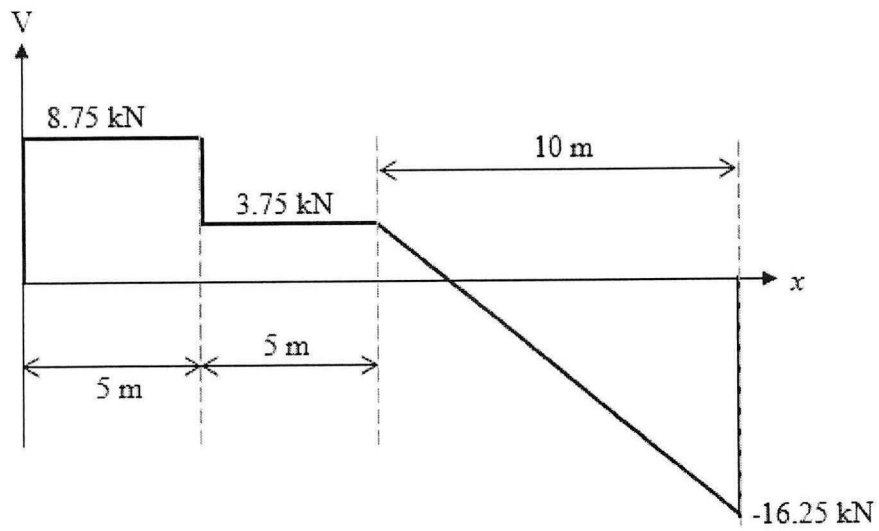

Figure Q2
- Q2** A shear force diagram for a simply supported beam is as shown in **Figure Q2**.